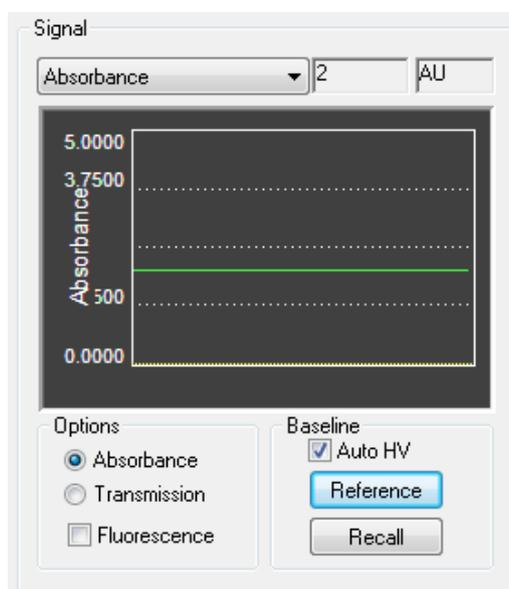

Figure 2.8: the Signal panel for Absorbance
1) Assuming that the SHU has been prepared as in Section 2.3, on the **Signal** panel (Figure 2.8) of the Pro-Data main window select **Absorbance** from the drop down list. Ensure that **AutoHV** is ticked.
4) Fill the optical cell with a suitable reference material (e.g. water or other solvent). Click the **Baseline** button in the **Signal** panel (Figure 2.8) to zero the absorbance detector.